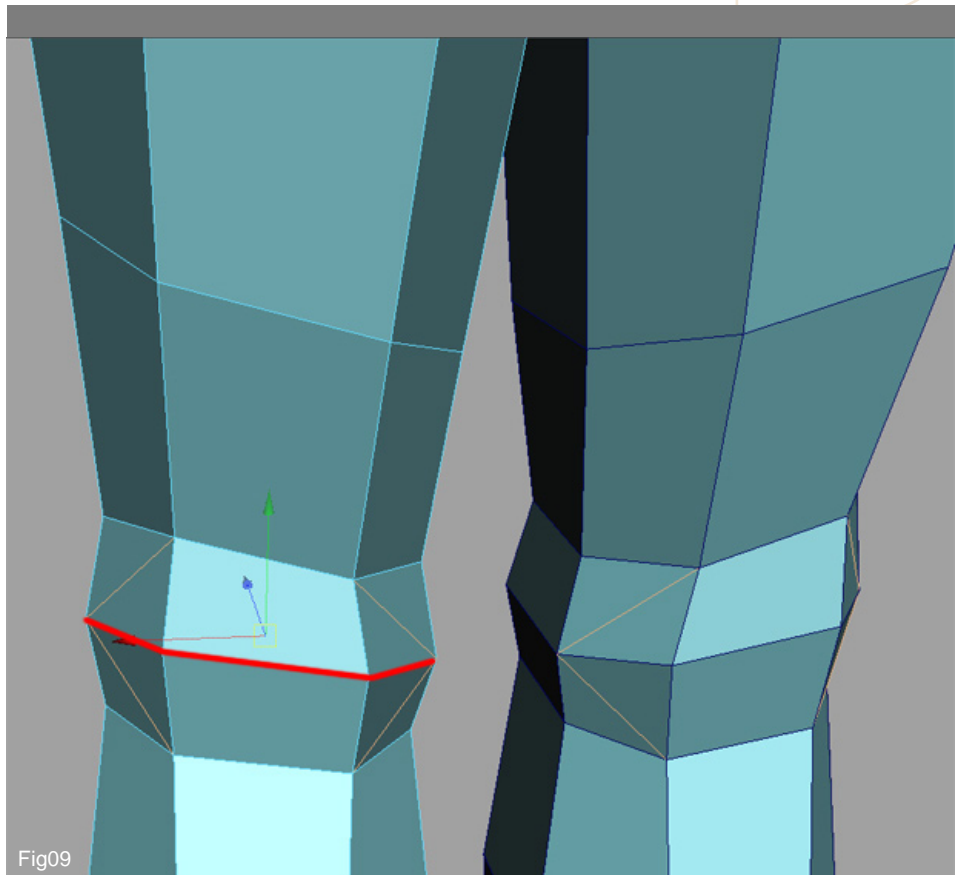

Fig09
9. Before moving on to the arms, we have to add few more details to the knee. That's because the surface, as it is right now, is not properly set for deformations during the animation. We're going to add two more edges, as shown in Fig09. Also now delete the red edge.